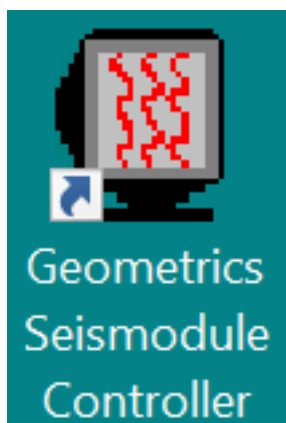
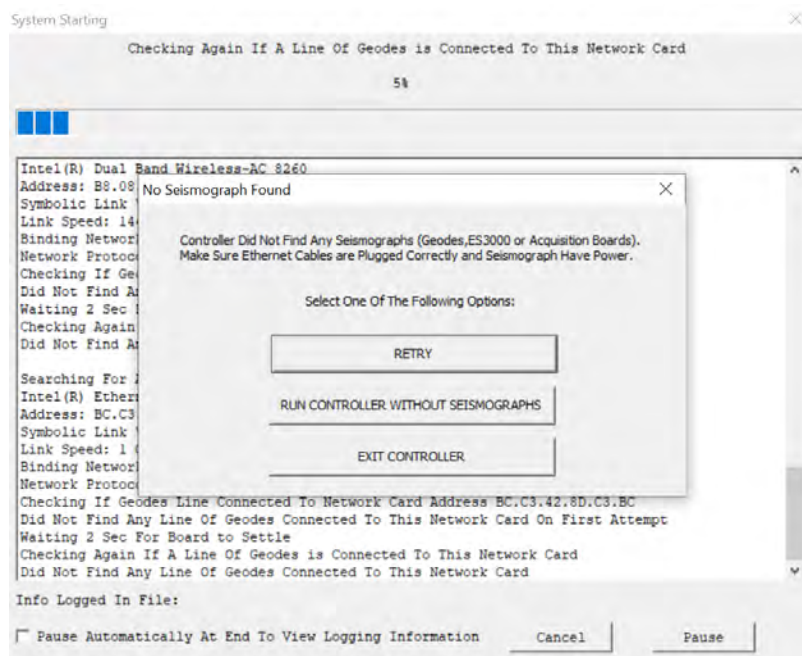

Figure 2. Desktop icon for the control software
Figure 3. 'No Seismograph Found' message on *Seismodule Controller*
1. After your equipment is connected and powered on, open the *Seismodule Controller* application (Fig. 2) on your field computer. If the software cannot detect any seismographs (Fig. 3), select “Retry.” Sometimes you need to try more than once for the software to detect the equipment. If the software still cannot detect your geophones, check the connections on the Geode and ensure that you have completed every step in Part I.